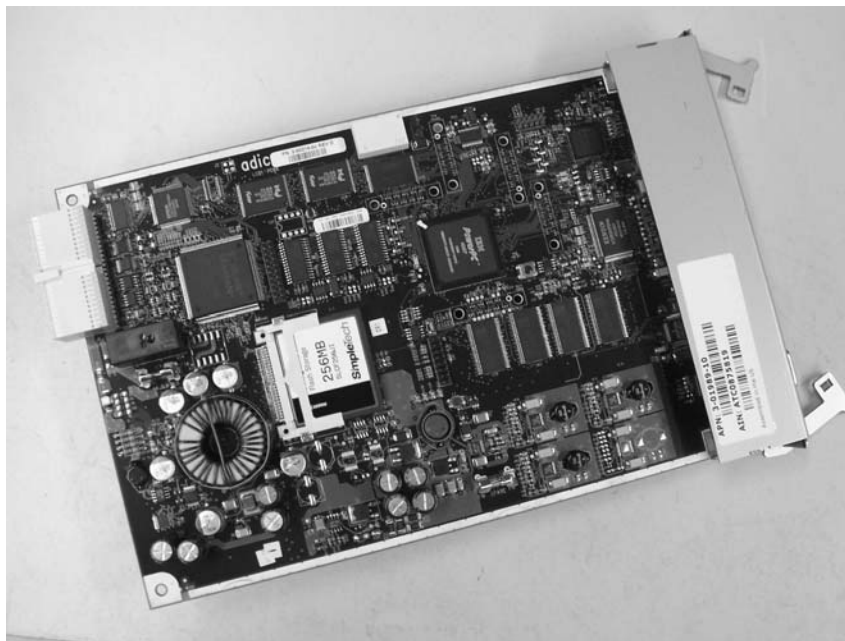

Figure 11-8. LCB firmware board
5. Once the LCB has been removed from the control module, carefully lay it (Figure 11-8) on a clean, flat surface.
Important: DO NOT touch any components on the firmware board (see Figure 11-8). Hold the firmware board by the metal cover and support it by the metal ground plane only.